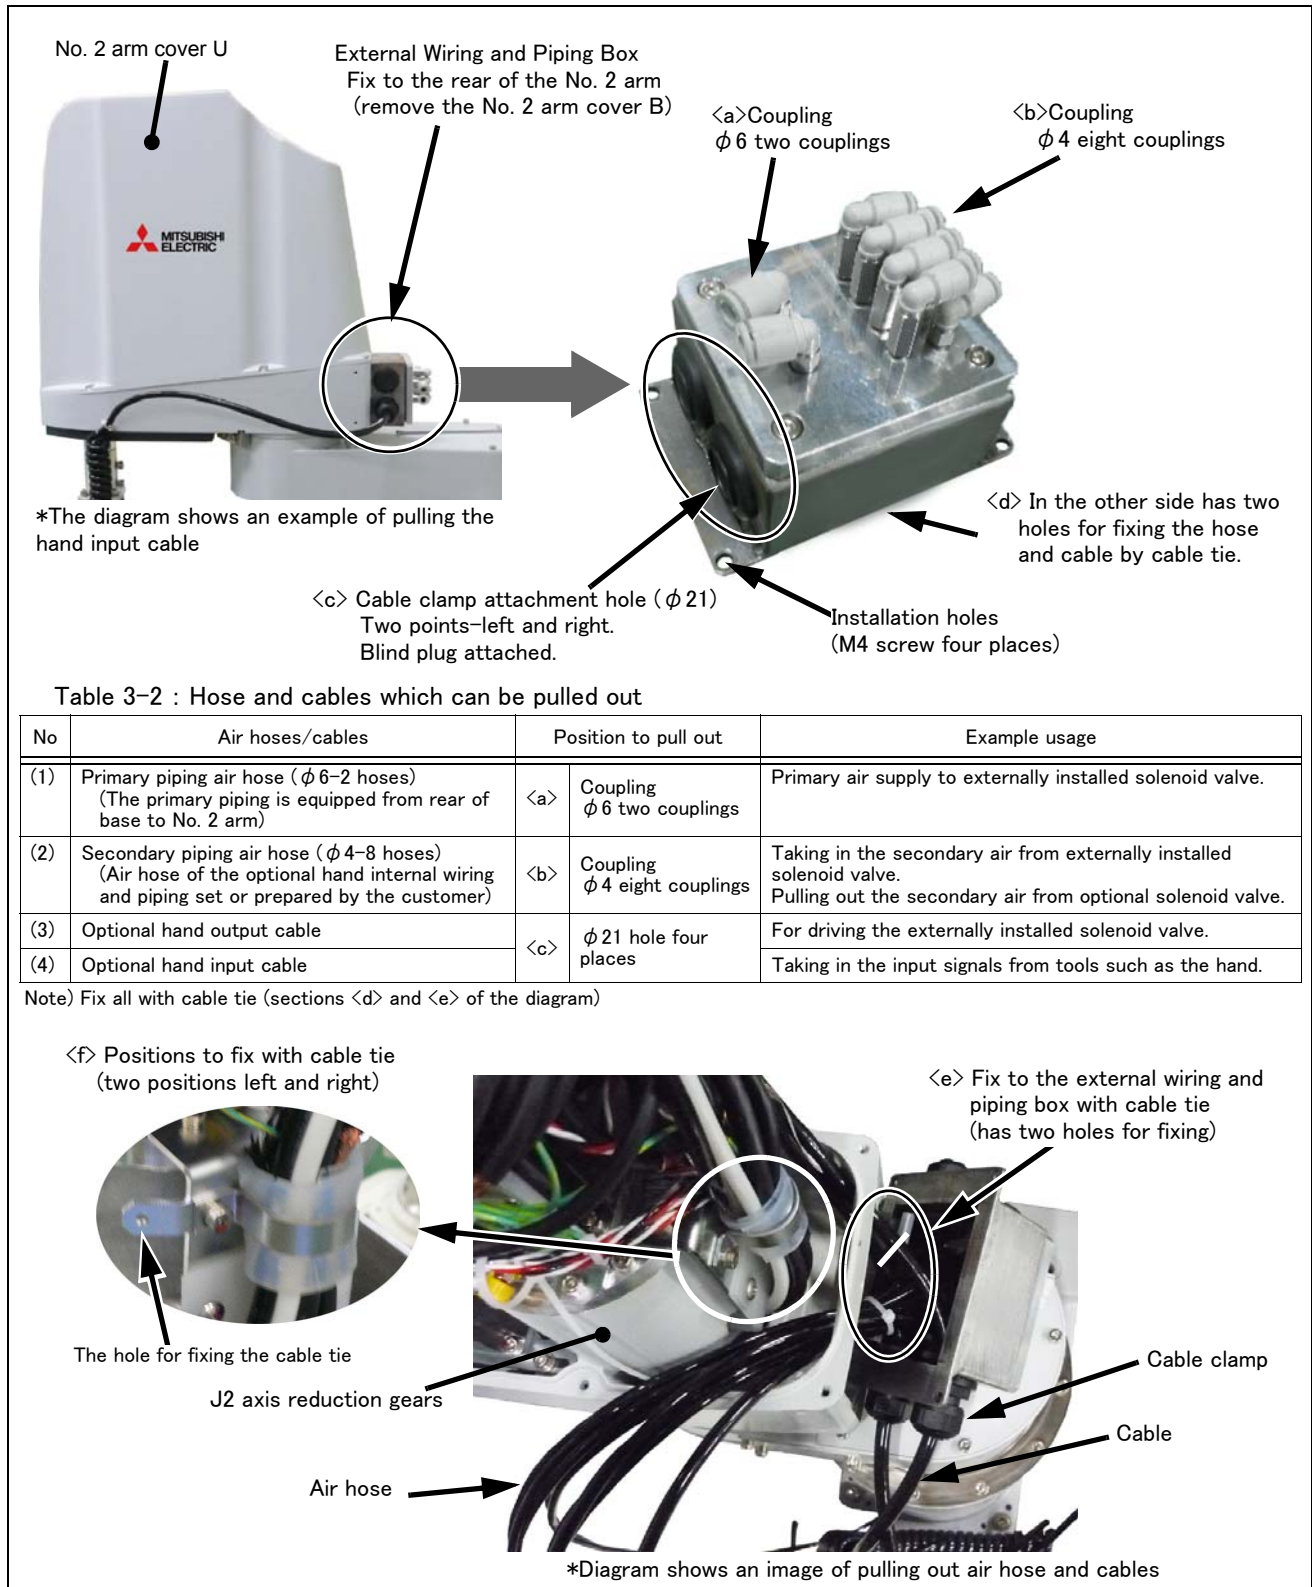

Fig.3-5 : External Wiring and Piping Box
Fig. 3-5 shows the installation procedure for the external wiring and piping box. Remove the No. 2 arm cover B and install this option using the same screw holes. The installation procedure is shown below.
- 4) Fix the air hoses and cables to the hole inside of this box by using the attached cable tie. (section <e> of Fig. 3-5)
Fix the hoses and cables to the hole shown in section <f> of Fig. 3-5 using cable tie. There are 2 holes, located left and right.